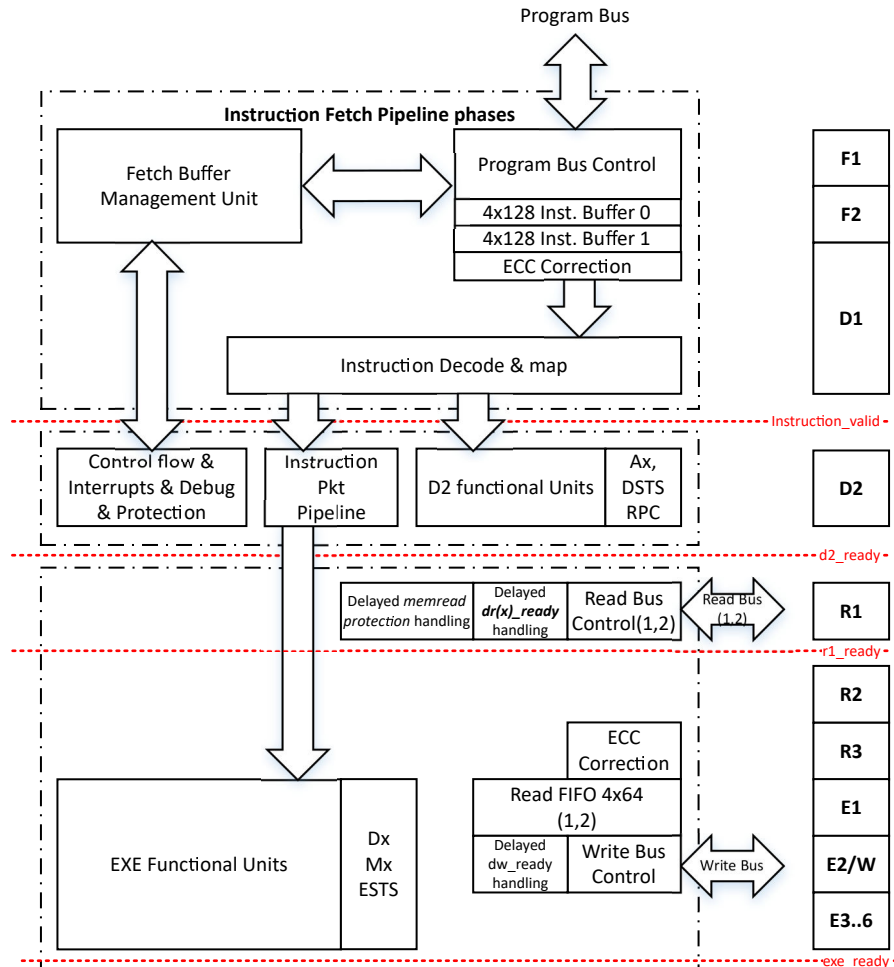

Figure 4-2. Decoupled Instruction Fetch Buffer
The C29x CPU pipeline architecture is divided into four sets of pipeline stages, which operate independently of each other. This decoupling of pipeline stages allows for one set of pipeline stages to progress while the other sets are stalled. The decoupling of the pipeline stages is shown in Figure 4-2
- The VLIW (Very Long Instruction Word) Architecture of a CPU allows for variable instruction width and variable number of instructions within a packet, with a max of 8 instructions per packet. To optimize performance, instruction fetch bus always fetches 128-bits and stores them in two sets of 128-bit buffers in the instruction fetch buffer. The instructions are then sent to the D2 phase of the pipeline based on the packet sizes. There are two sets of 128-bit buffers in the instruction fetch buffer which can store the fetched instructions and dispatch them to the D2 phase of the pipeline based on the instruction packet sizes. This is depicted in Figure 4-2. The condition that advances F1, F2, D1 stage pipeline is called **instruction\_valid**